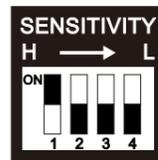

Fig. 3
3. Set the Sensitivity DIP switch 1 to ON and 2-4 to OFF (90%) position (Figure 3). If working properly the red Alarm LED should be on and the green LED will be off. Repeat these steps several times to make sure LED operation is correct.